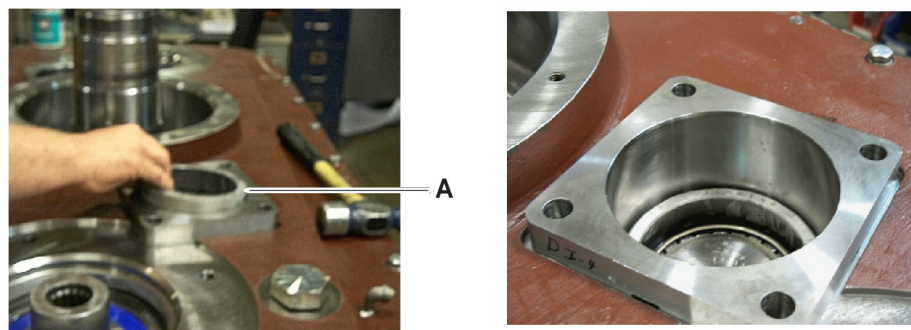

Figure 13
23. Slide the intermediate bearing cup (Figure 13, item A) down to engage the bearing cones. Make sure that the upper intermediate bearing assemblies are fully seated together using a drift to seat them.